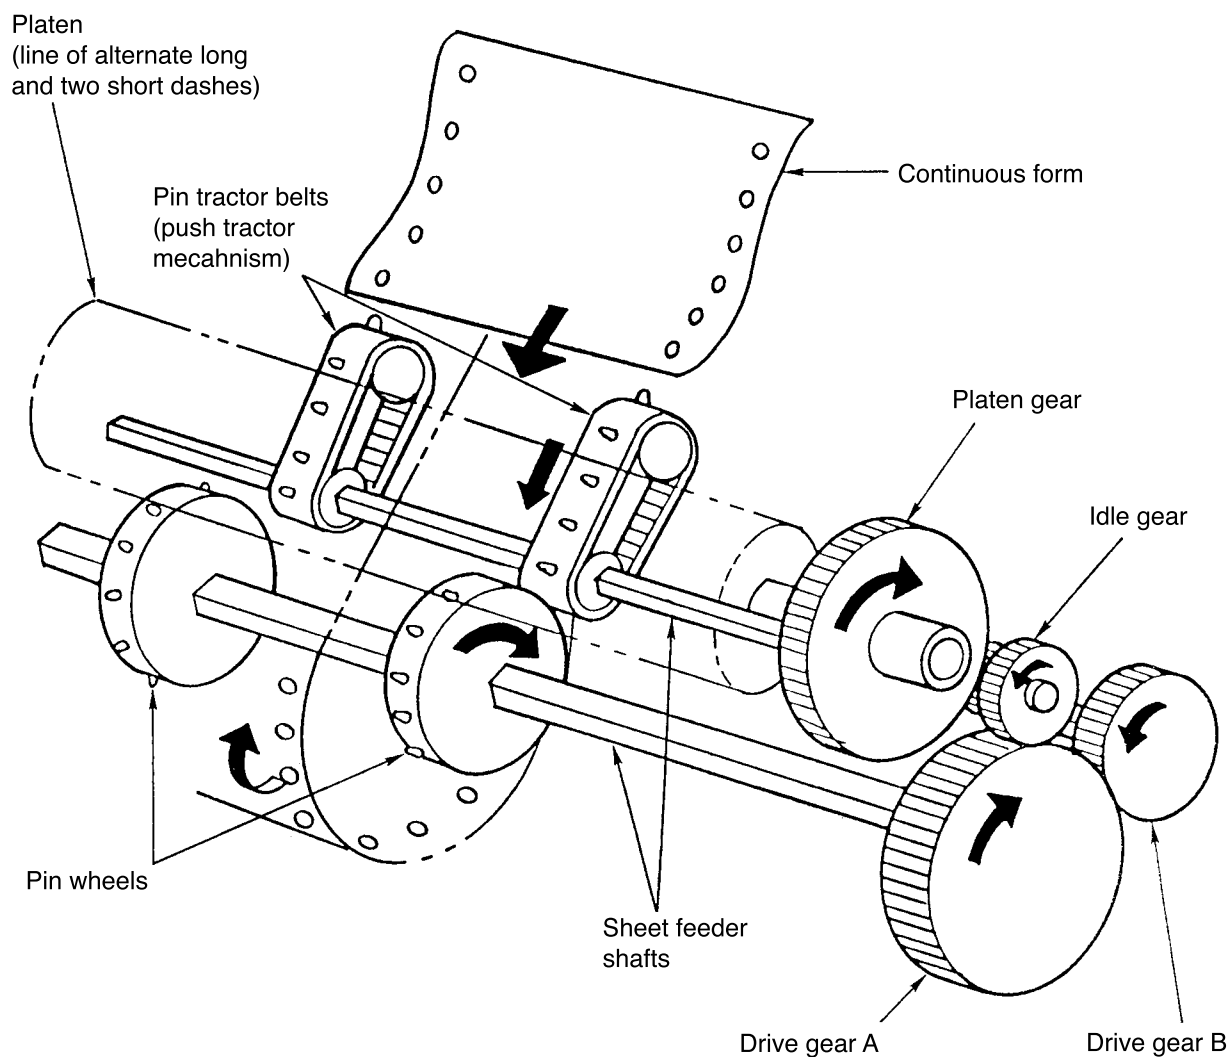

Figure 2.7 Continuous form feeding mechanism
(2) Continuous form feeding mechanism (See Figure 2.7)